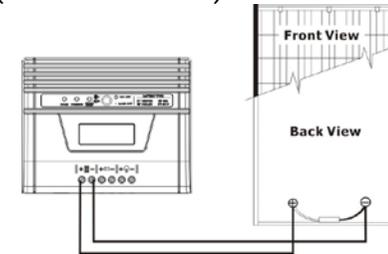

Fig. 4
1) Single solar module connection (Refer to Fig. 4): When using a single solar module, its voltage must not exceed the maximum solar module open circuit voltage (see below Table 1).